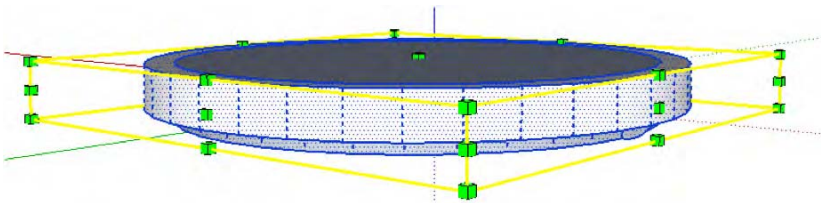

Figure 6-19. *Enlarging the model 10 times its size*
6. Using the Scale tool, enlarge the model 10 times its size (Figure 6-19).